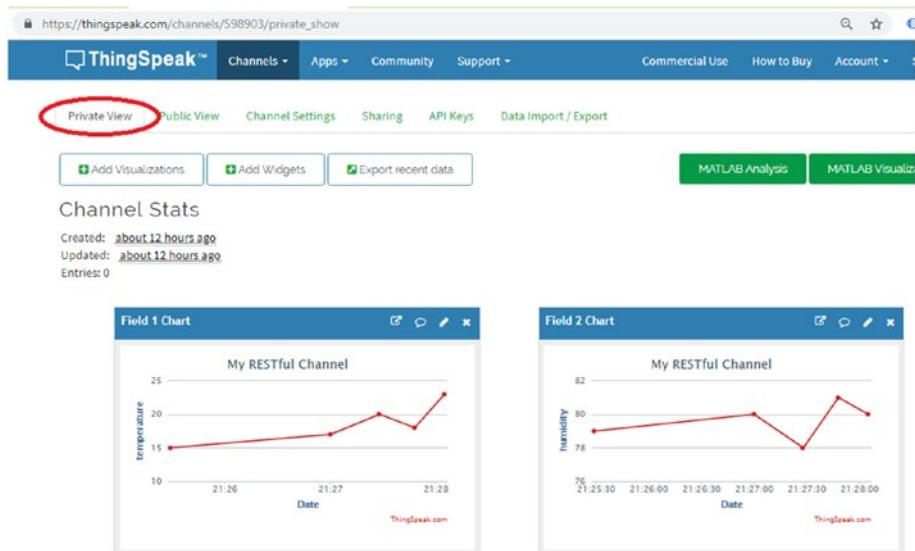

Figure 6-8. Field 1 Chart shows temperature data over time, and Field 2 Chart shows humidity data over time
- On the Private View tab, you can view the Field 1 Chart and Field 2 Chart graphs with the submitted data through the channel feed (Figure 6-8).